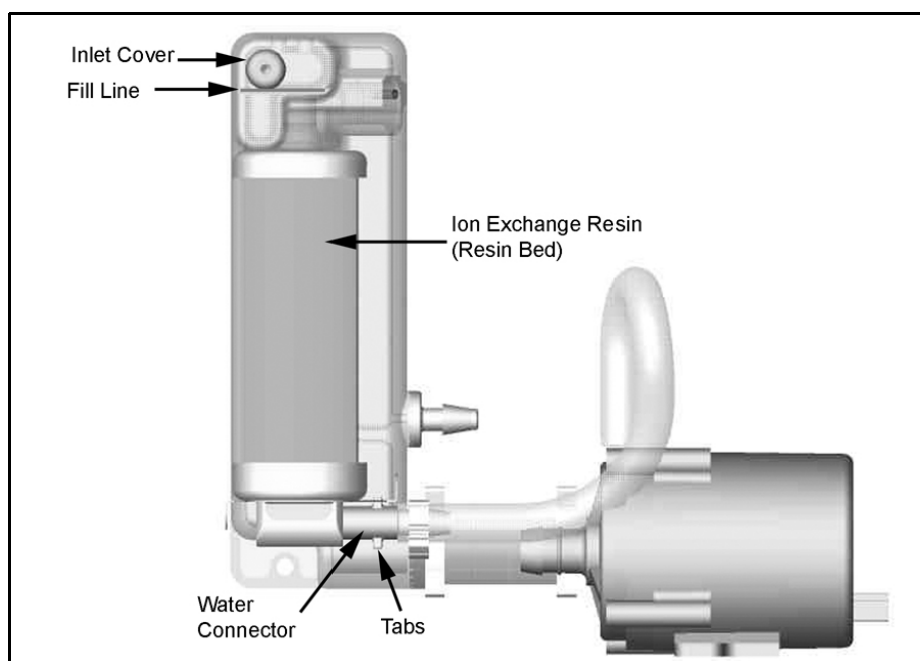

Figure 42: The DI Water Reservoir and Resin Bed
13. Locate the resin bed. (See Figure 42 on page 179.)